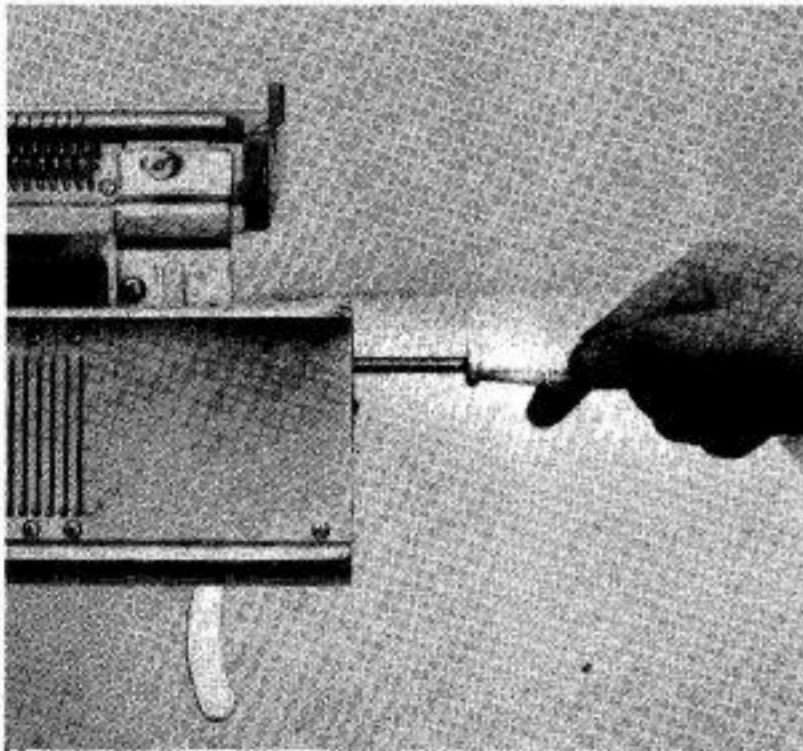

Fig. 87
1. At the end nearest to the needle to be changed, push in the needle retainer rod with the blade of the screwdriver or something like this until an inch or so of the rod appears through the hole at the opposite end of the machine. (Fig. 87)